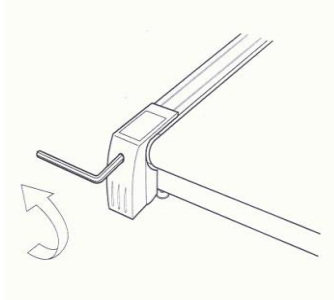

Figure 2
- **Running belt has shifted to the right side. (Figure 2 - Adjusting the belt to the left side)**